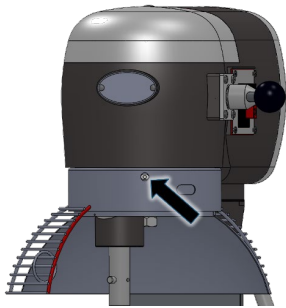

Figure 2
2. Remove the rubber closing caps from the mounting screws as in the indicated positions. Remove the screws. See figure 2 and 3.